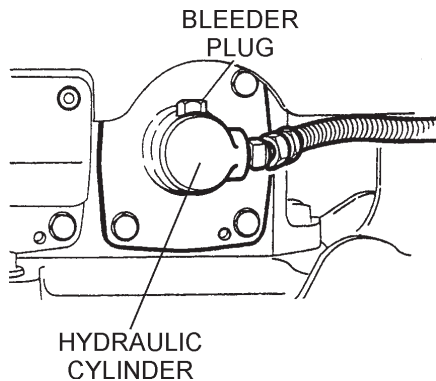

Figure 32. Bleeder Plug
3. Loosen bleeder plug located at top of hydraulic cylinder on side of vibrator (Figure 32). Air remaining in the circuit will be forced out of the bleeder plug. Once all air has been purged from the hydraulic system, tighten bleeder plug securely
1. Take off the battery cover by removing the M6 nuts (Figure 32).